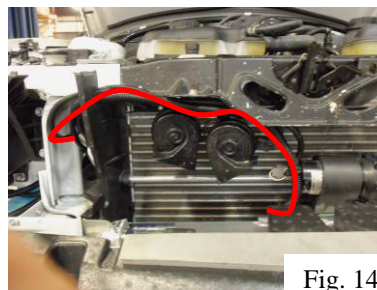

Fig. 14
- 35) The remainder of the harness should be routed from the relays, through the radiator support opening, and up along the top of the radiator support to the pump (Fig. 14).